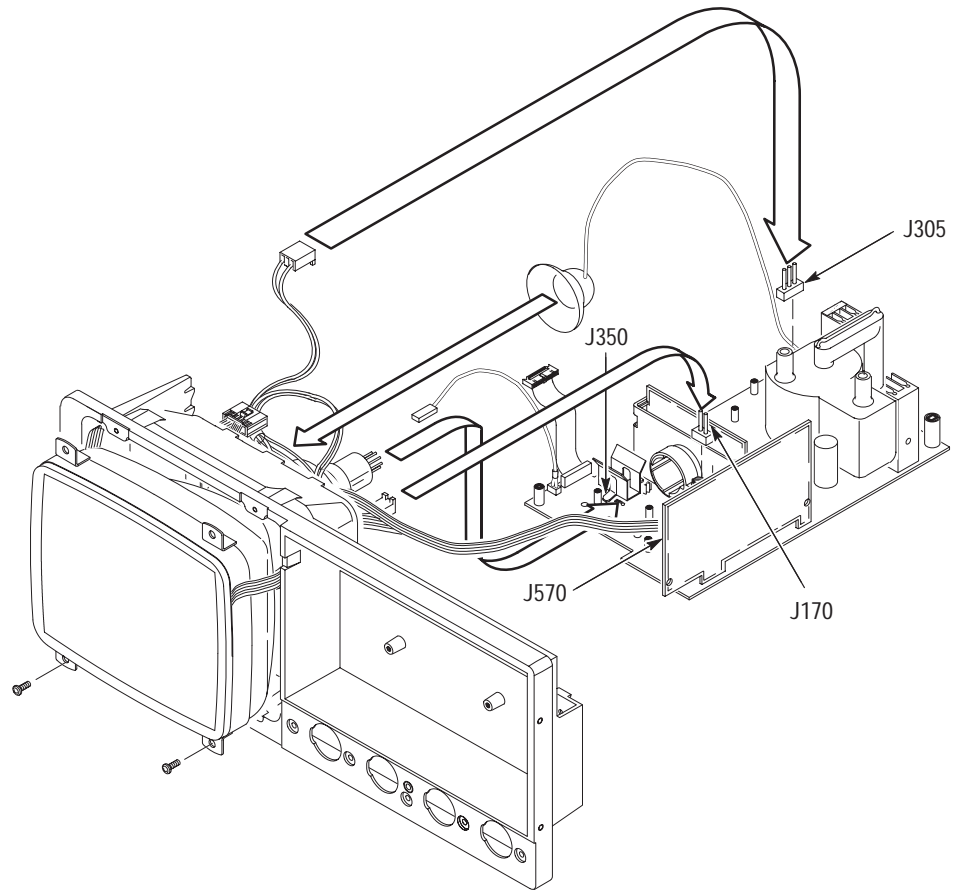

Figure 6–24: Display assembly removal
5. *Remove the display supply board:* Use Figure 6–25 as a guide.